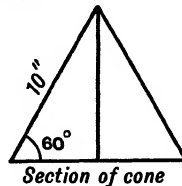

FIG. 97
6. The angle between the slant face of a cone and its circular base is  $60^\circ$ . The slant height is 10 in. Find the vertical height of the cone, Fig. 97.